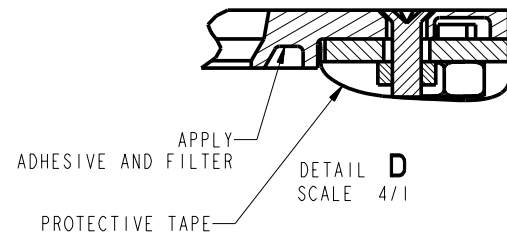

FIGURE 2
**SPACER TABLE FOR FIG 2**
SOLUTION (FIG 2)
## SOLUTION (FIG 2)
SOLUTION (FIG 2): MAKE THE GASKET (ITEM 1) SO THAT THE INSIDE OPENING LINES UP WITH THE EDGE OF THE TOUCH SYSTEM (EDGE 1) AND THE OUTER OPENING LINES UP WITH THE OUTER EDGES OF THE FILTER (EDGE 2).
APPLY ADHESIVE AND FILTER IN ACCORDANCE TO CT SPECIFICATION 2000-0340. SEE FIGURE 2. FILTER SIZE FOR THE 12LP IS 6.53 in (165.86 mm) X 8.61 in (218.69 mm).